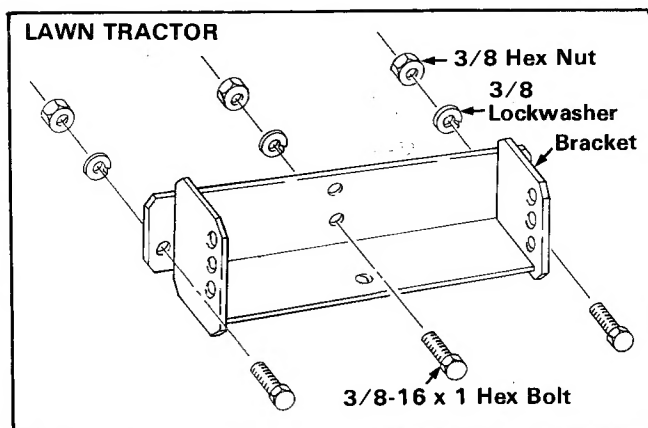
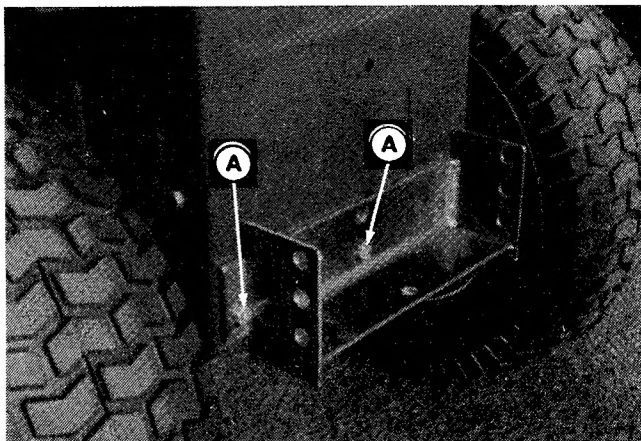

Figure 11.
Figure 12.
2. Install the bracket (figure 11) to the back plate through the same holes where the drawbar plate was bolted. Use the three 3/8-16 x 1 hex bolts, lockwashers, and nuts (A, figure 12).